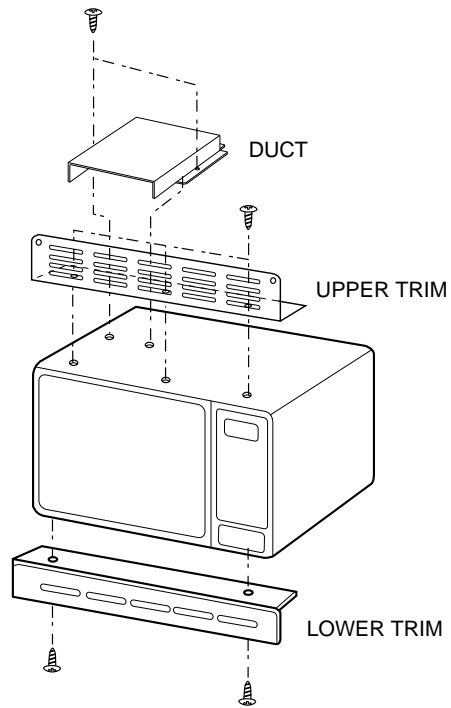

FIGURE 4
2. MOUNT THE UPPER TRIM ON THE OUTER CASE USING THREE 12 mm SCREWS. AND THEN MOUNT THE DUCT ON THE OUTER CASE USING TWO 12 mm SCREWS. SEE FIGURE 4.
3. REMOVE TWO SCREWS FROM THE FRONT OF BASE PLATE. MOUNT THE LOWER TRIM ON THE BASE PLATE USING TWO 12 mm SCREWS. SEE FIGURE 4.